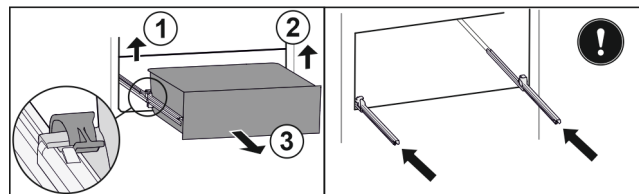

Fig. 97
- ▶ Lift left clamp and simultaneously pull drawer forwards on the left. Fig. 97 (1)
- ▶ Lift right clamp and simultaneously pull drawer forwards on the right. Fig. 97 (2)
- ▶ Remove drawer to the front. Fig. 97 (3)